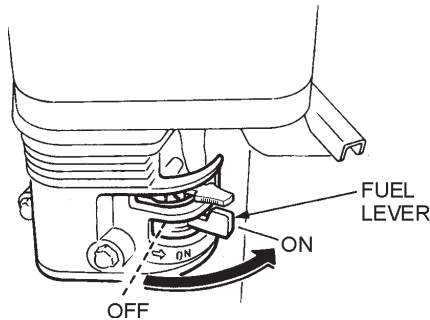

Figure 10. Fuel Valve Lever
1. Place the **fuel valve lever** (Figure 10) in the "ON" position.
3. Place the **fuel valve lever** (Figure 10) in the **"OFF"** position.